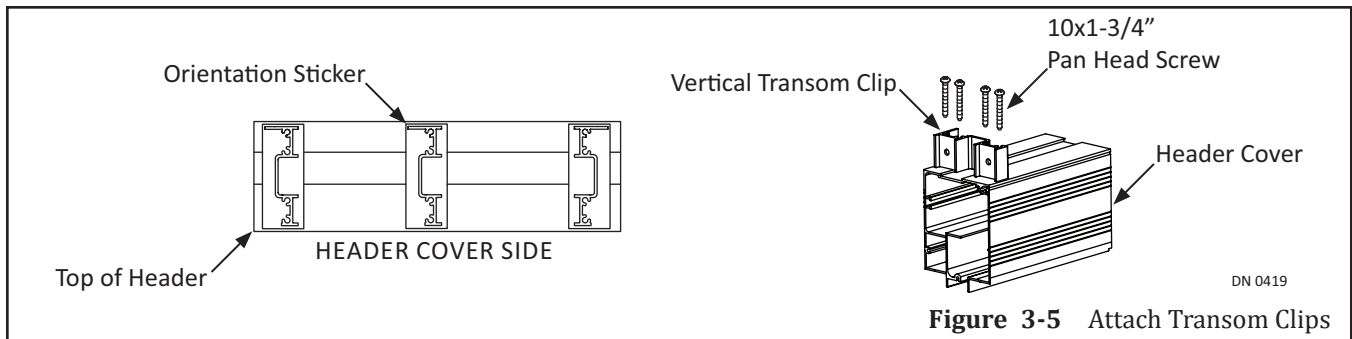

Figure 3-5 Attach Transom Clips
3. Secure Transom clips to Header with #8 x 1-3/4 inch screws that were provided by NABCO. Please see Figure 3-5.